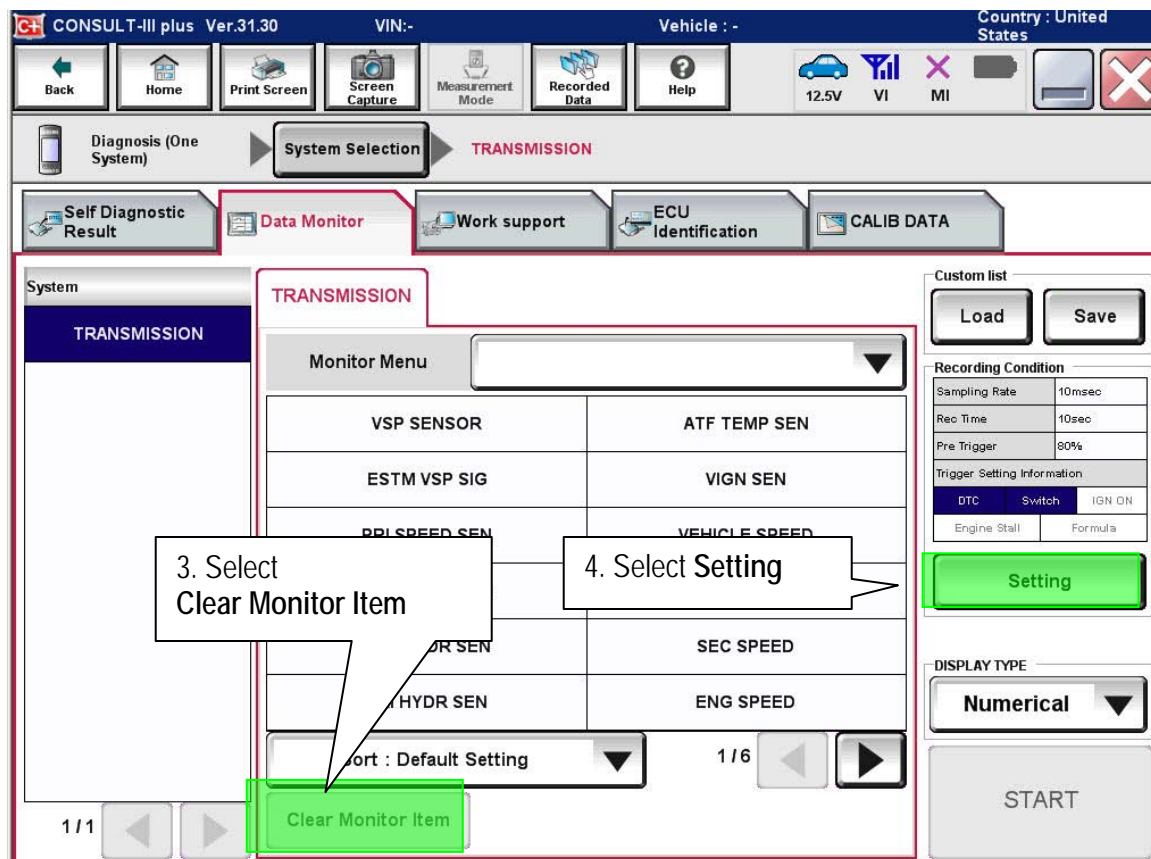

Figure 8
2. Select **TRANSMISSION** and then **DATA MONITOR** (Figure 8).